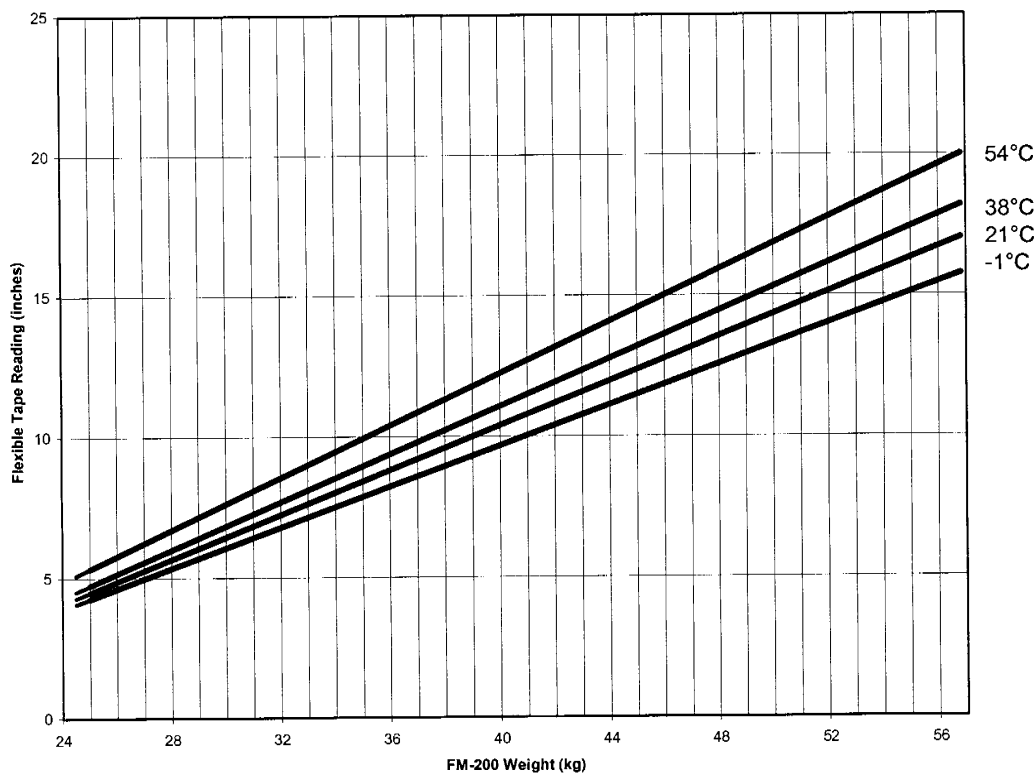

Figure 6.1 Graduated Tape Calibration Chart for 51 litre GX20 Cylinder
7. Refer to the appropriate calibration charts, see Figures 6.1, 6.2 and 6.3, and locate the level reading on the graduated tape scale. Trace horizontally to the right to the appropriate temperature plot. Read the weight of FM-200 from the scale at the bottom of the chart. Record the weight and date on the record tag attached to the cylinder.